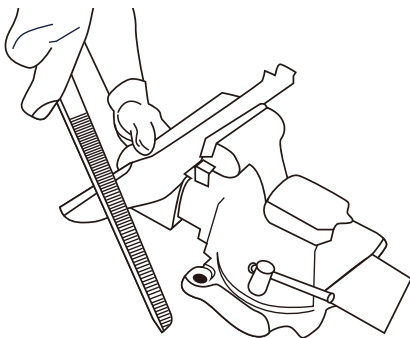

Fig. 13
- b. Secure the blade in a vise (Fig. 13).